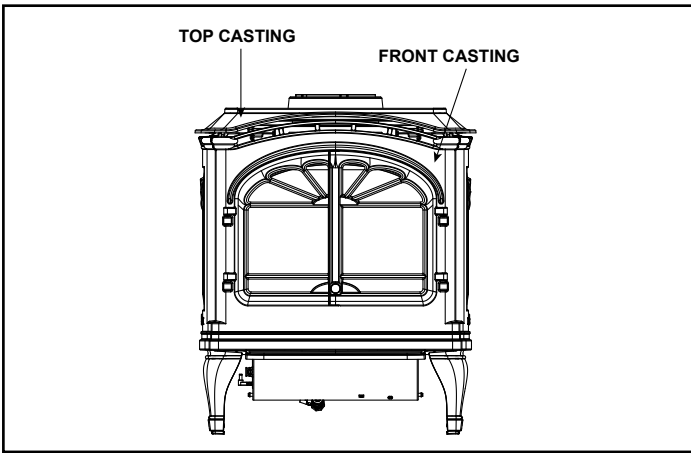

Figure 6.10 Remove Casting
- Remove front casting, if not previously removed, by grasping it at the top and lifting up. The top casting may need to be lifted slightly to accommodate removal of the front casting. See Figure 6.10.